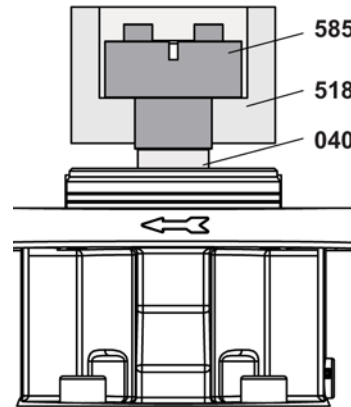

Fig. 10
5. Check the position of the tensioning element: The tensioning element **585** has to lie flat on the distance sleeve **040** and inner rotor **518**, see Fig. 10. Otherwise loosen the screws again and reposition the tensioning element.